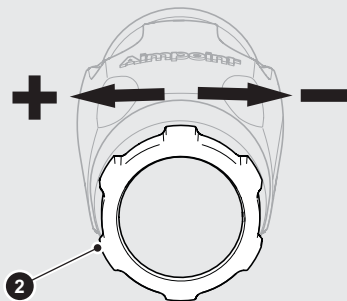

Fig. 6 Diopter setting
Additionally, on the 3XMag-1 it is possible to adjust the diopter setting by rotating the diopter ring (2) as shown in Fig. 6.